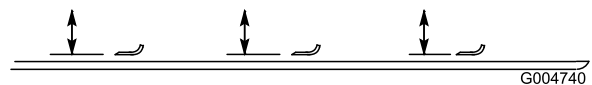

Figure 83
2. Rotate the blade until the ends face forward and backward and measure from the inside of the mower deck to the cutting edge at the front of the blade (Figure 83).